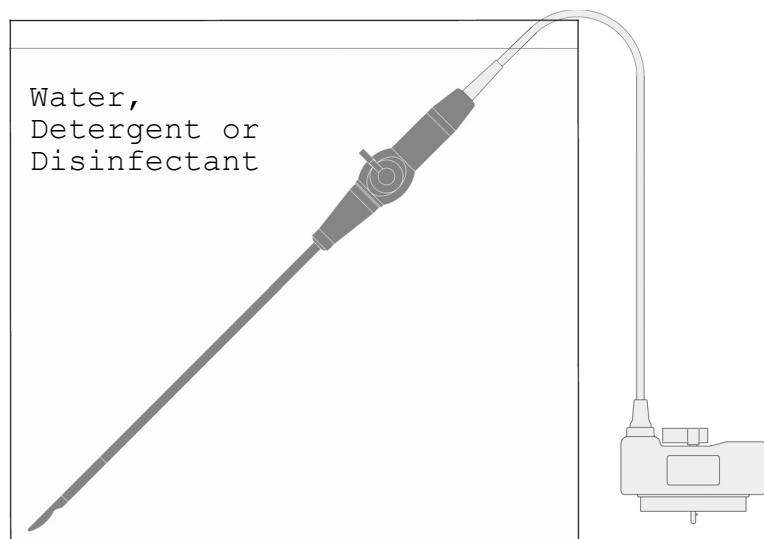

Fig.3 Immersion of the probe.
- 2) Immerse the immersible part of the probe without connector into the diluted detergent solution (see Figure 3). Wipe the immersible part of the probe under the surface of the detergent solution with a soft cloth to remove all visible soil. Be sure that all grooves of the probe are implemented during the cleaning process.
- 5) Rinse the immersible part of the probe with running tap water for 1 minute. (alternatively: immerse the immersible part of the probe in a tray filled with deionized water/tap water (see Fig.3) for 5 min.)
- 3) Immerse the immersible part of the probe into the disinfectant (see Fig. 3). Set a clock to insure the recommended contact time which is 5 minutes.
- 4) Rinse the immersible part of the probe with deionized water for 1 minute. (alternatively: immerse the immersible part of the probe in a tray filled with deionized water (see Fig.3) for 5 min.)